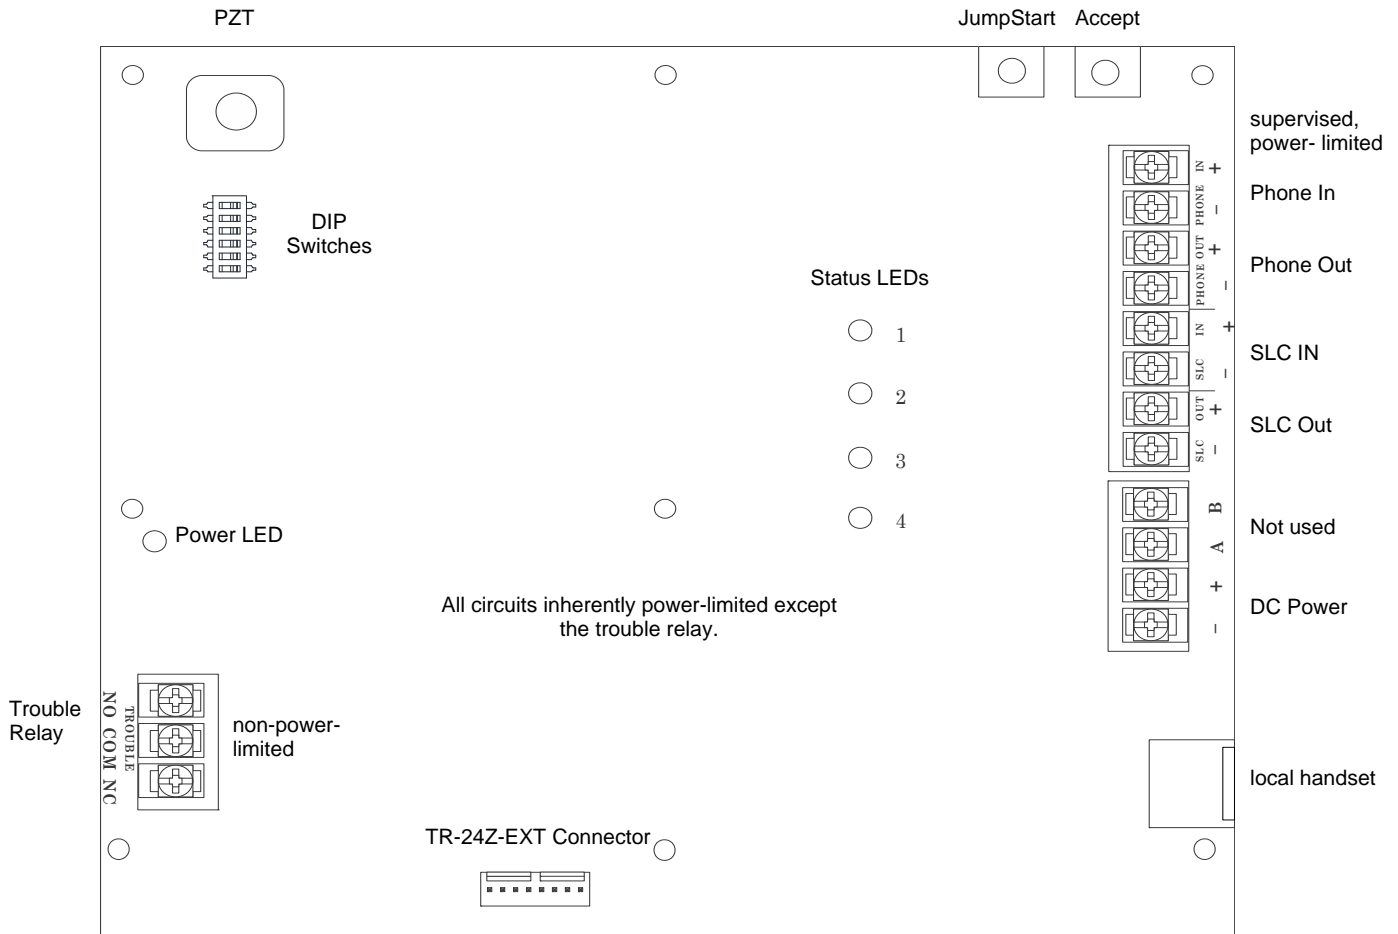

Figure 3.7 Back View of TR-FFT
1. Refer to Figure 3.7 to identify the location of the DIP switches located on the TR-FFT board.